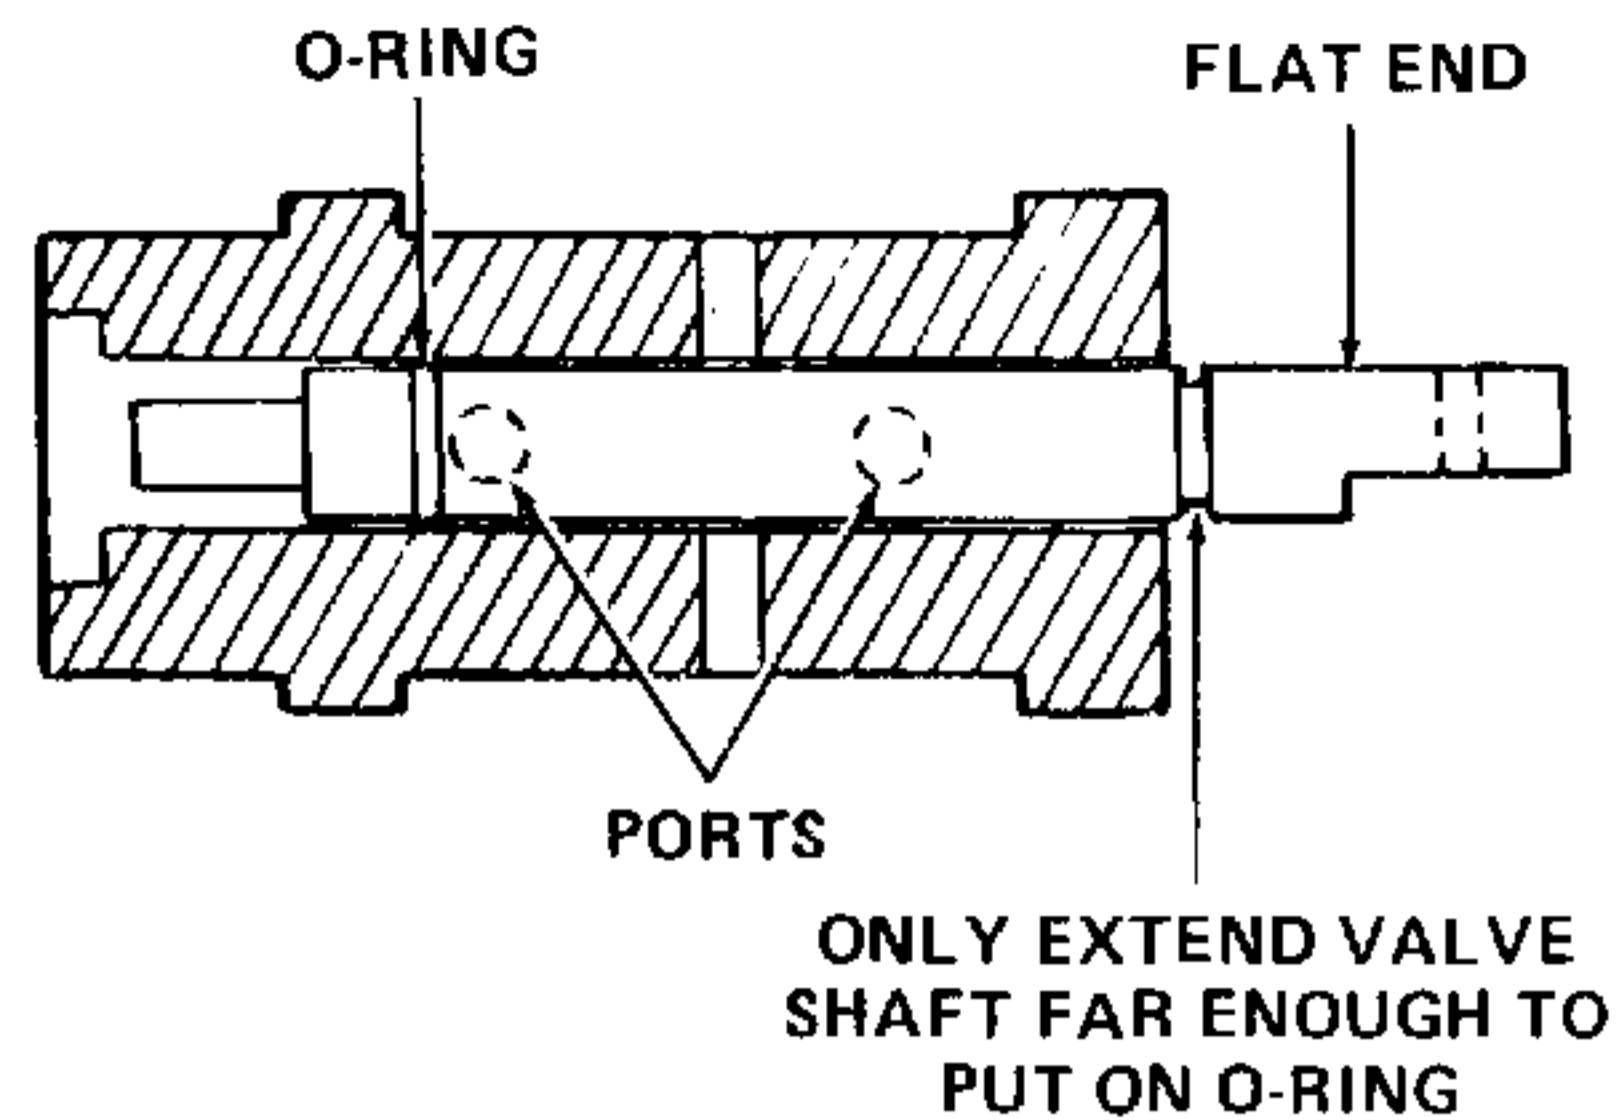

Figure 5-53. Placement of O-Rings on Valve Shaft.
- c. Push valve shaft through valve body until O-ring groove on flat side of shaft is just outside of valve body. Refer to Figure 5-53.